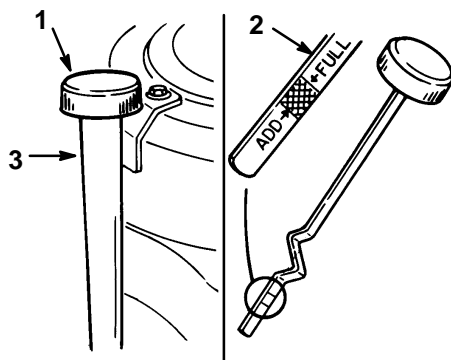

Figure 20
2. Clean around the oil dipstick (Fig. 20) so dirt cannot fall into the filler hole and damage the engine.
3. Unscrew the oil dipstick and wipe the metal end clean (Fig. 20).
4. Slide the oil dipstick fully into the filler tube, do not thread onto tube (Fig. 20). Pull the dipstick out and look at the metal end. If oil level is low, slowly pour only enough oil into the filler tube to raise the level to the “FULL” mark.
5. Slowly pour approximately 80% of the specified amount of oil specified, page 23, into the filler tube (Fig. 20). Now check the oil level; refer to Checking Oil Level, page 24. Slowly add additional oil to bring to “FULL” mark on dipstick.